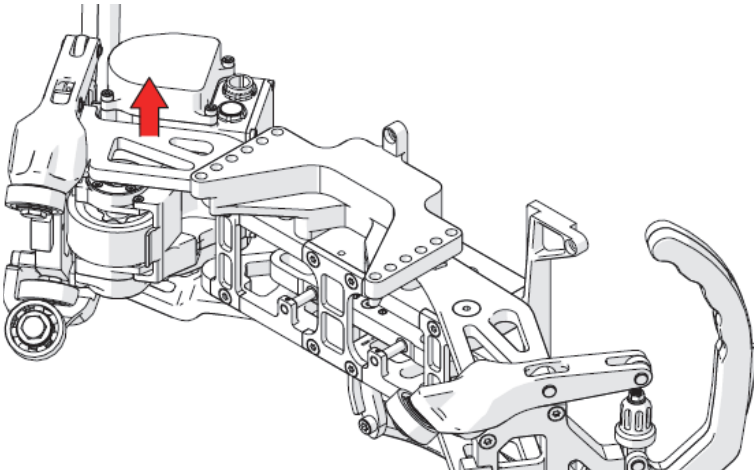

Figure 2-10 Remove motor carriage arm
11. Lay the motor carriage on its side with the probe holder plate facing up, and remove the motor carriage arm (see Figure 2-10 on page 90).